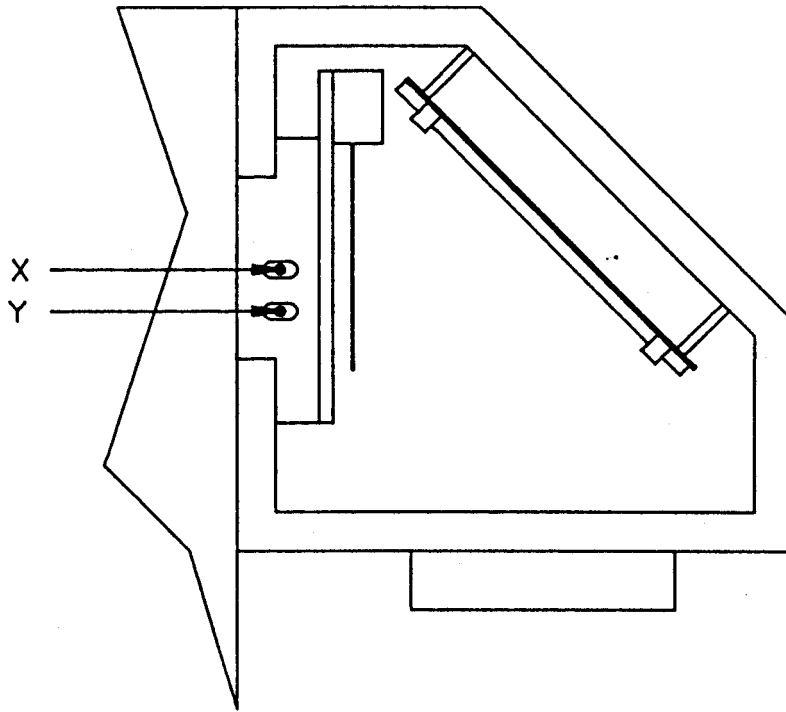

Fig.11 OPTIMIZING THE BEAM UNIFORMITY
4. Adjust the vertical adjustment screw Y (Fig.11.) or horizontal adjustment screw X (start with the worst nonuniform plane) to equalize the power read on the light meter placed alternately in positions 1-2-3 and 7-8-9 or 1-4-7 and 3-6-9.